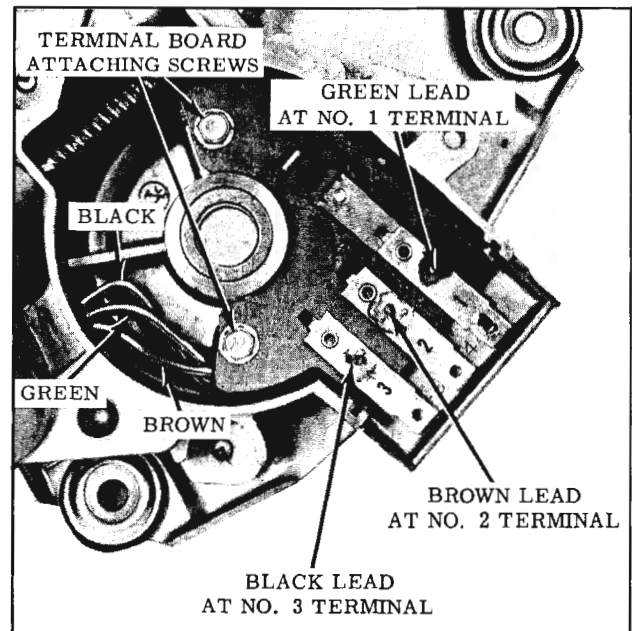

Fig. 14-174 Removing Terminal Board
4. Remove 2 terminal board attaching screws and lift terminal board from gear housing. Unsolder the black wire from connection at terminal board. (Fig. 14-174)
4. Solder black wire to proper terminal of the terminal board. (Fig. 14-174) Solder the yellow lead on opposite end of same field coil to the circuit breaker contacts on the brush plate.